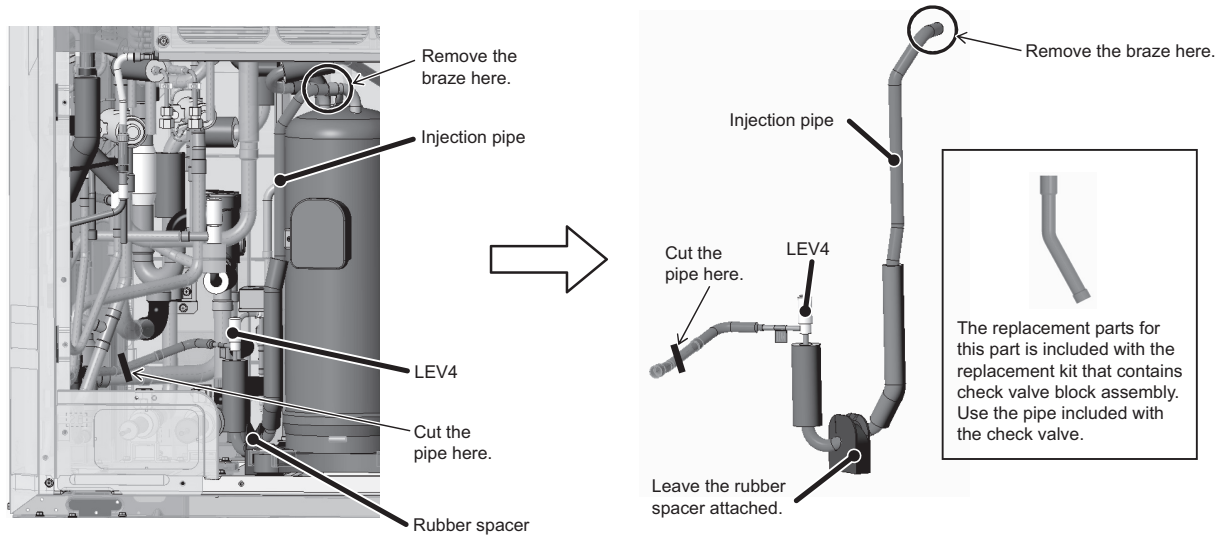

Figure 11
(11) Cut the pipe with a pipe cutter at the area shown in Figure 11.
Remove the braze at the area circled in Figure 11 to remove LEV4 assembly. (See Figure 11.)